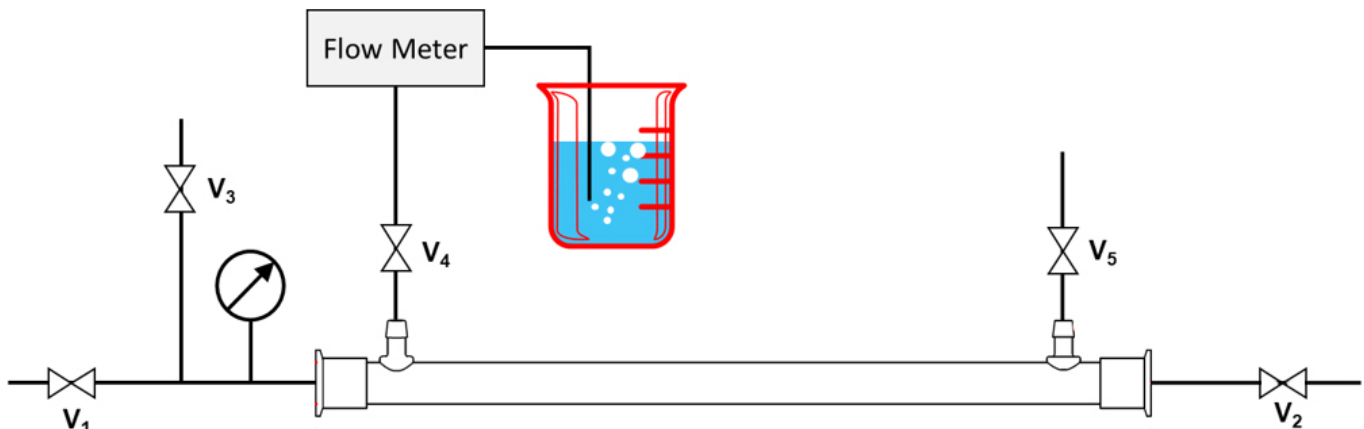

Figure 7: Bubble Point Test Schematic.
1. A system setup for performing the bubble point test is shown below in Figure 7.